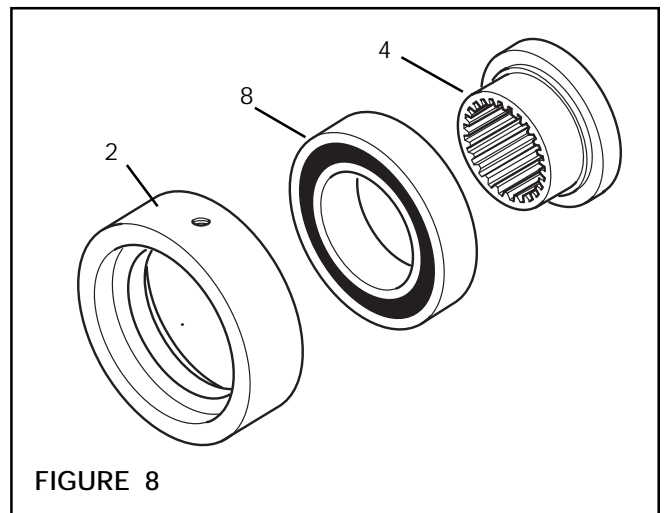

FIGURE 8
1. Press Drive Ring (Item 4) out of Ball Bearing (Item 8) (See Figure 8).
2. Remove Ball Bearing (Item 8) from Cylinder (Item 2) (See Figure 8).